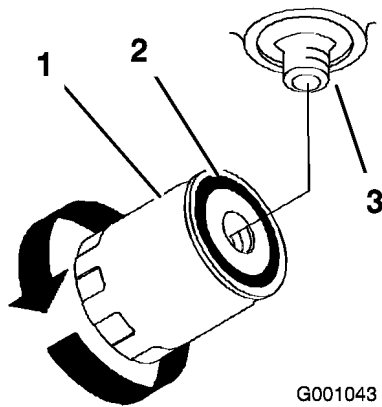

Figure 61
4. Apply a thin coat hydro fluid to the rubber gasket on the replacement filter (Figure 61).
6. Fill the hydraulic tank with hydraulic fluid until the fluid overflows the filter and then turn the oil filter clockwise until the rubber gasket contacts the filter adapter, then tighten the filter an additional 1/2 turn (Figure 61).